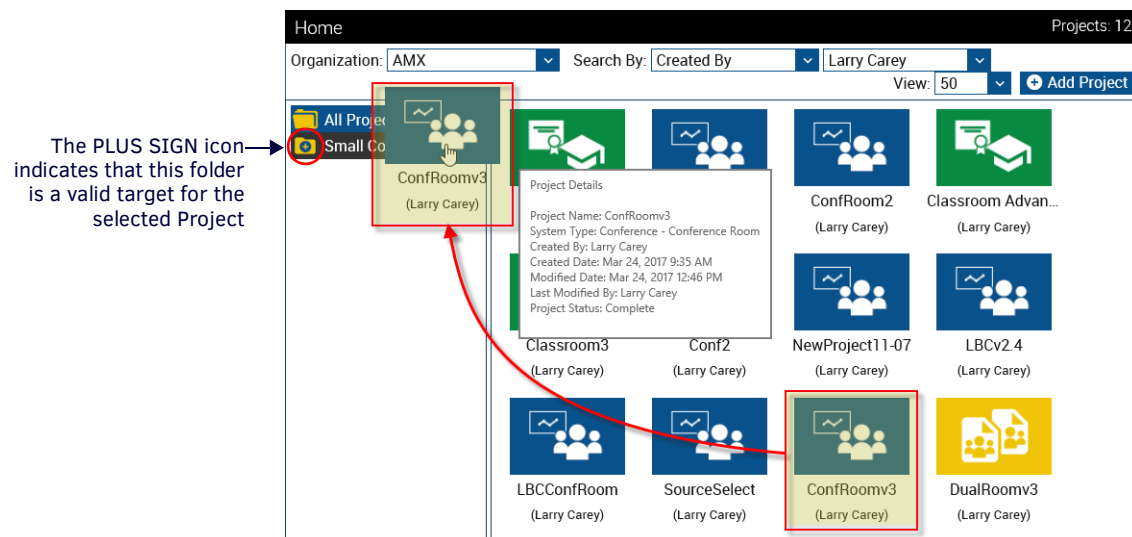

FIG. 48 Moving a Project into a Folder via Drag-and-drop
2. Drag-and-drop a project from the Project View onto a folder to place a link to the selected Project in the target folder (FIG. 48):